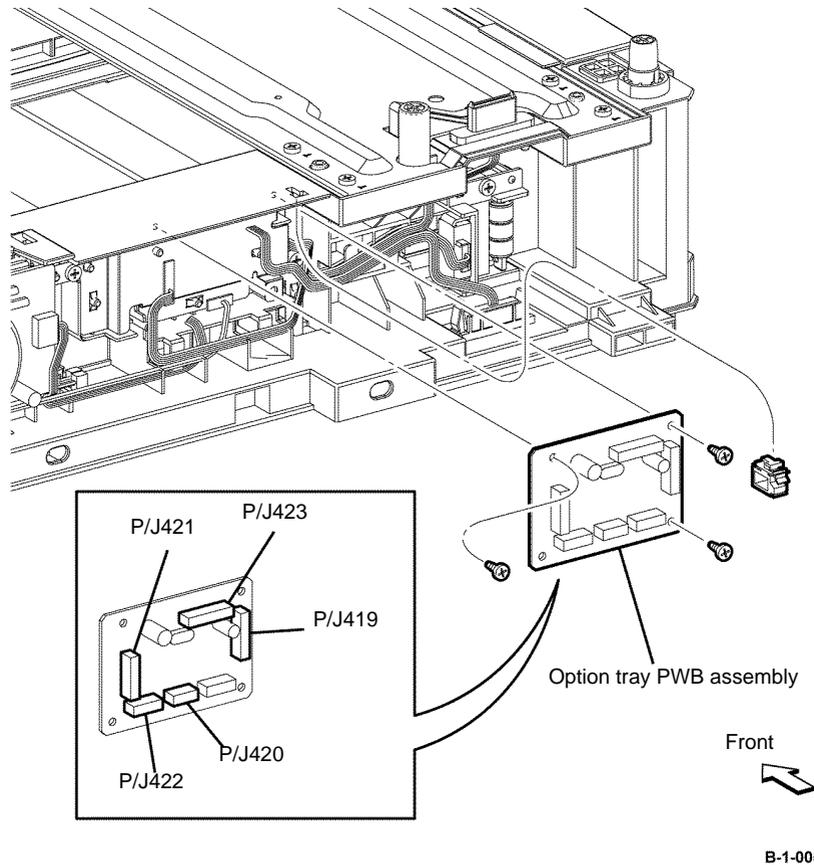

Figure 2 Option feeder PWB assembly removal
5. Disengage all connectors from the option tray PWB assembly, Figure 2.
6. Remove three screws (silver, tapping, 8mm) that fix the option tray PWB assembly, then remove the option feeder PWB assembly, Figure 2.